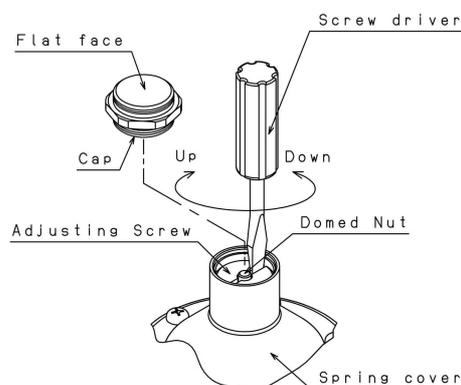

Fig. 4
- ( 2 ) Remove the cap. By checking the pressure gauge, turn the adjusting screw to adjust the reduced pressure to a desired level. (Fig.4)